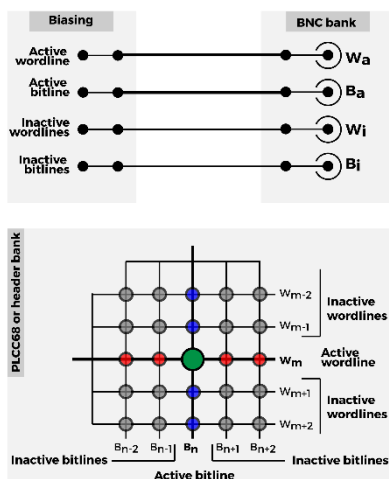

Figure 5.2. Live: External BNC session mode board connectivity
2. **Live: External BNC** - in this mode of operation your device under test should be connected to the instrument through the BNC terminals. The board applies stimuli and reads out data exclusively through the BNC terminals (Figure 5.2). In the Crossbar Panel the target device appears as address [W=1, B=1]. **WARNING:** Please ensure no package is connected in the PLCC68 holder or through the header bank.